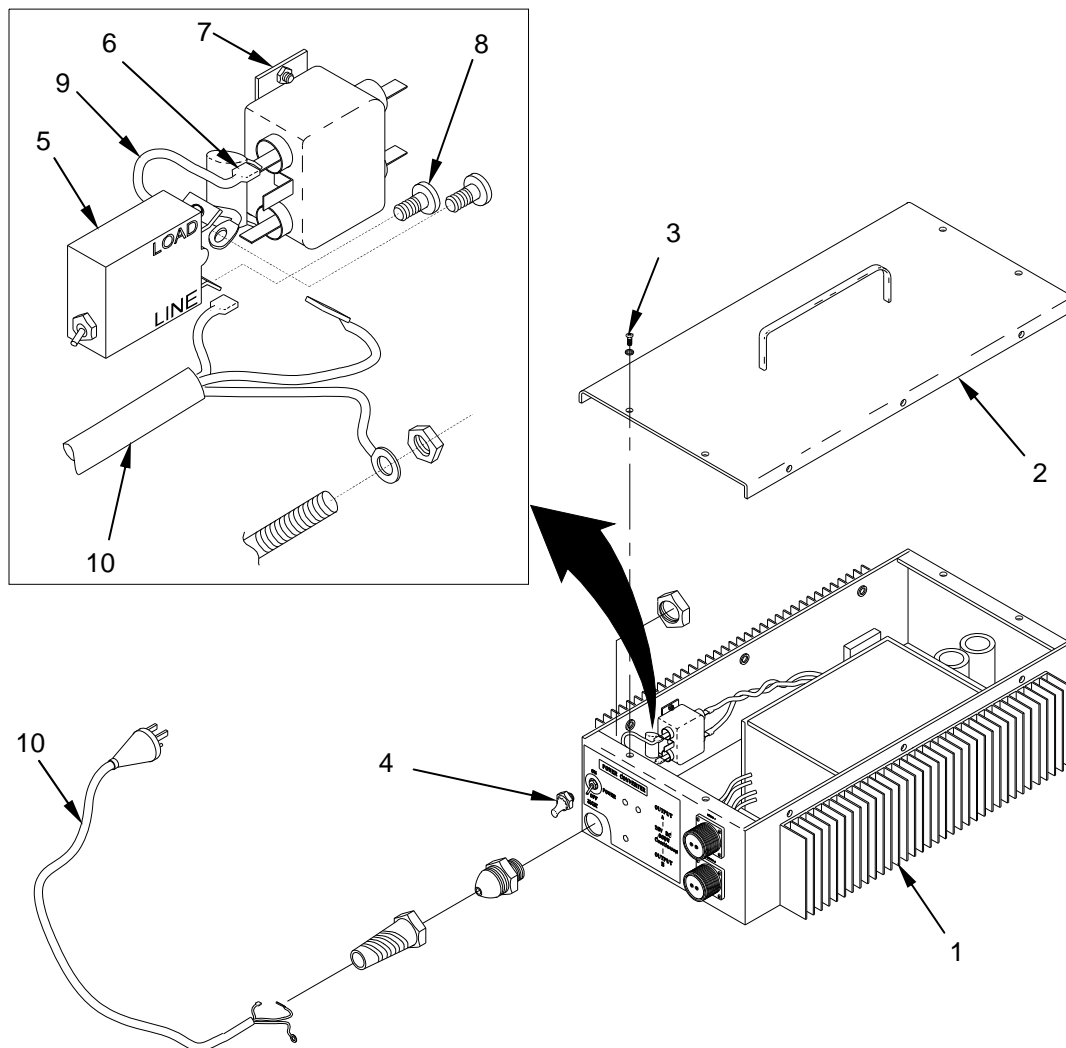

Figure 1. Test the Power Converter (MS0150).
10. Test for continuity through the power switch (Figure 1, Item 5) with a multimeter. If the power switch is not defective, check for continuity through the power cord (Figure 1, Item 10). If both the power switch and power cord are not defective, the entire power converter should be replaced.
11. Install the main power switch (Figure 1, Item 5). Install the short wire (Figure 1, Item 9), set aside earlier on the switch terminal labeled "LOAD." Secure with screw.
12. Place the switch (Figure 1, Item 5) in position in the power converter's front panel. Be sure to position the switch so that the screw terminal labeled "LOAD" is facing up and out of the case, while the terminal labeled "LINE" is facing down into the power converter case.
13. Install the hex nut with protective rubber cap (Figure 1, Item 4) onto the front of the power switch (Figure 1, Item 5).
14. Connect the spade terminal (Figure 1, Item 6) to the lug on the AC filter block (Figure 1, Item 7).
15. Secure power converter cover (Figure 1, Item 2) with the retained fasteners (Figure 1, Item 3).